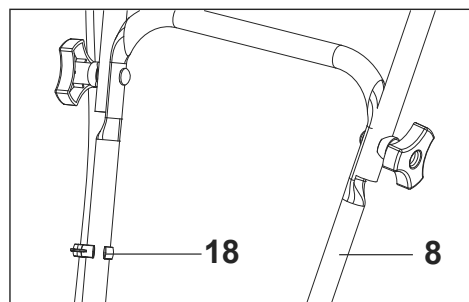

Fig. 3
4. Fix the cord in the cord clip (18) (Fig. 3).